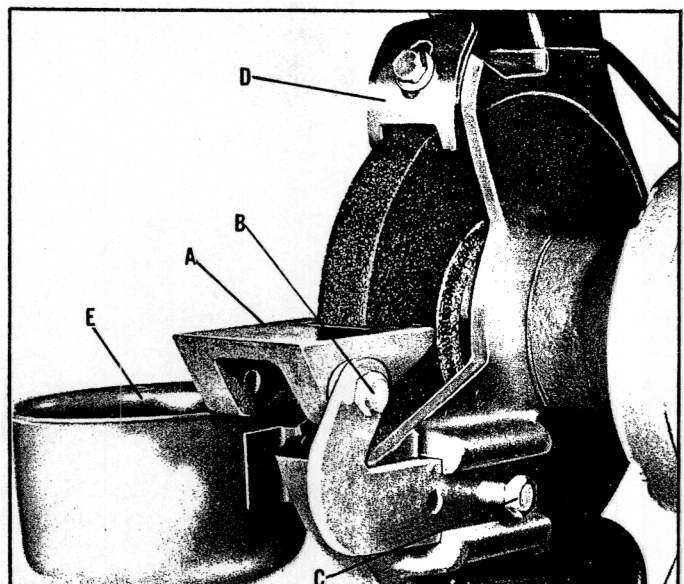

Fig. 2
The tool rest (A) Fig. 2 is fully adjustable for any angle from 90 degrees up to almost tangent with the wheel itself, so that any angle of grinding can be performed. To tilt the tool rest simply loosen screw (B) Fig. 2, tilt tool rest to desired angle and tighten screw (B). The tool rest also is adjustable so that it constantly hugs the wheel, giving maximum support to the piece that is being ground. Loosen screw (C) Fig. 2, move tool rest in until it hugs the wheel and tighten screw (C). A level tool rest, set a little below the center of the wheel, is the most practical and safest position for general grinding. The special ledges of the tool rest permit grinding on both sides as well as face of grinding wheel. Freehand grinding without the use of the tool rest should always be done on the lower quarter of the wheel.
The spark guard (D) Fig. 2, is located at the top of the grinding wheel and should be adjusted as close as possible to the wheel so that sparks never strike the operators hand. As the wheel wears down the spark guard should be adjusted accordingly.
The water pot (E) is conveniently located on the side of the grinding wheel guard, as shown in Fig. 2.